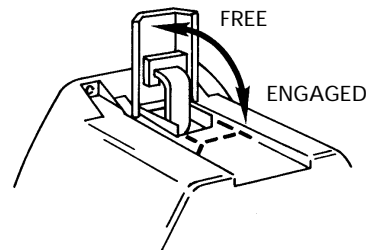

Figure 15
Lift the clutch lever to the "Free" position as shown in Figure 15. If there is a load on the wire rope, the clutch lever may not turn easily. **DO NOT FORCE THE CLUTCH LEVER.** Release tension on the wire rope by jogging out some of the wire rope. Releasing the clutch and pull out the wire rope and secure to anchor or load. Check that there are at least five (5) turns of wire rope left on the drum. Re-engage the drum by returning the clutch lever to the "Engaged" position (see Figure 15).